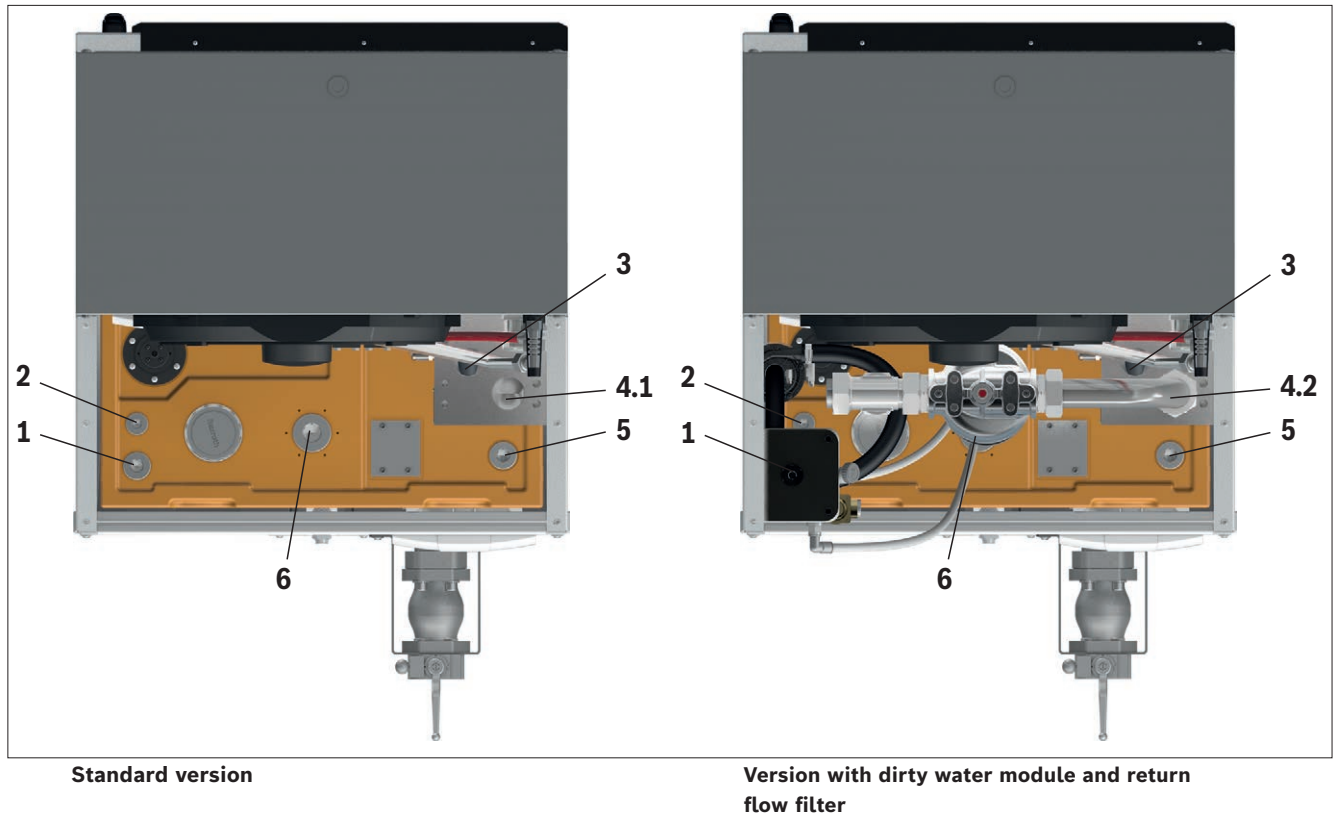

Fig. 23: Oil tank ports, pressure port
- If there is no subplate mounting, e.g. type IH20, connect the return line with a G1 1/2 fitting in the standard version via the return flow port T, G1 1/2, see Fig. 23, item 4.1, or with the return flow filter option to the connection 42L, see Fig. 23, item 4.2.
- Connect the pressure line with a G1 1/4 fitting via the pressure port G1 1/4, see Fig. 23, item 3.
The back pressure-free oil tank ports G3/4 (see Fig. 23, item 2), G1 (see Fig. 23, item 1 and 5) and G1 1/2 (see Fig. 23, item 6), can be optionally connected, e.g. for a rotary transmission leadthrough. Close unused ports with blanking plugs.